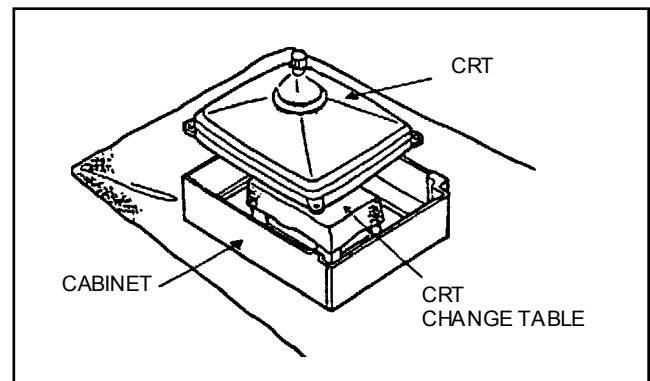

Fig. 10
- 4. After 4 screws have been removed, put the cabinet slowly on cloth (At this time, be carefully so as not to damage the front surface of the cabinet) shown in Fig. 10.